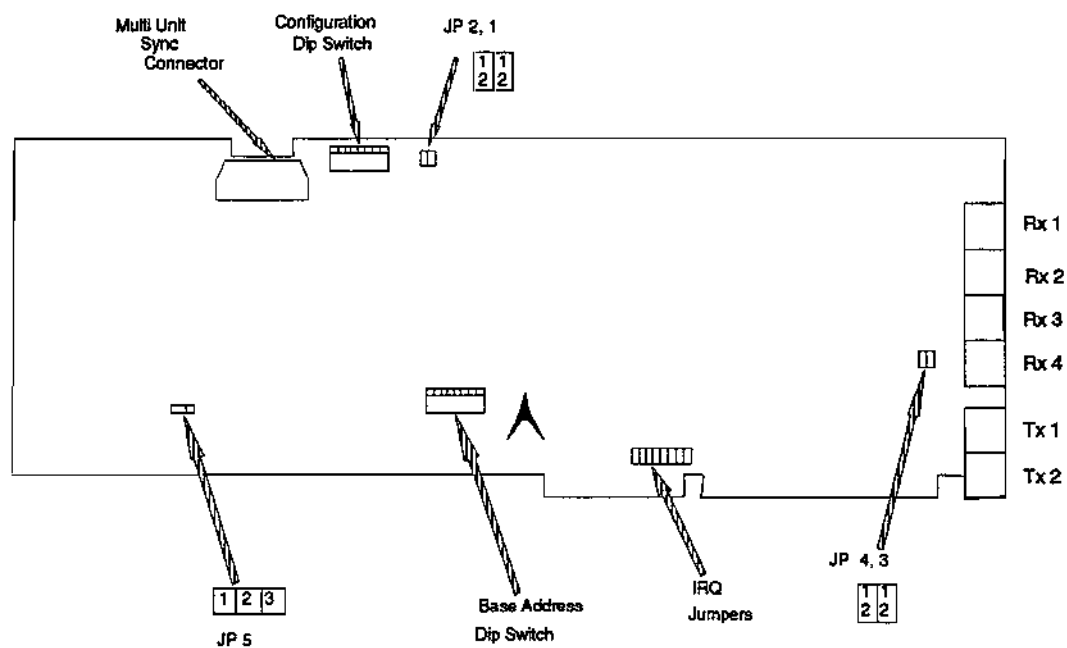

Figure 6. System Electronics Card
The transmitter cable is plugged into the other end of the transmitter interface card and goes to the system electronics card. If you are using only one transmitter then this cable plugs into the connector labeled "TX 1" in figure 6.
Orientation of the x, y, z measurement reference frame with respect to the transmitter coils is shown in figure 6. If you want to change the orientation of the measurement reference frame use the **REFERENCE FRAME** command in conjunction with the **CHANGE VALUE XYZ** **REFERENCE FRAME** command.
The location of these switches and jumpers on the card are shown in figure 6. The switch and jumper settings are described in the **ELECTRONICS CARD CONFIGURATION** section 2.2.1 of this manual.
Once the switches and jumpers are set, the cards are plugged into the PC chassis, the transmitter cables are plugged into the connectors labeled Tx1 and Tx2 shown in figure 6 and the receivers are plugged into the connectors labeled Rx1, Rx2, Rx3, Rx4. If you have a master/slave configuration, the master/slave cards are plugged in master first, followed by a slave, if this is the only slave card then it is called the END slave because it is at one end of the multi-card sync cable. If there are multiple slave cards then all slave cards except the last slave are called the MIDDLE slaves. Attach the multi-unit sync cable to the multi-unit sync connector on the top of each card. Power can then be turned on and commands sent to the SpacePad cards.
2.2.1.3 BOARD JUMPERS. There are 5 jumpers on the circuit board shown in Figure 6. Configure the jumpers per the following: